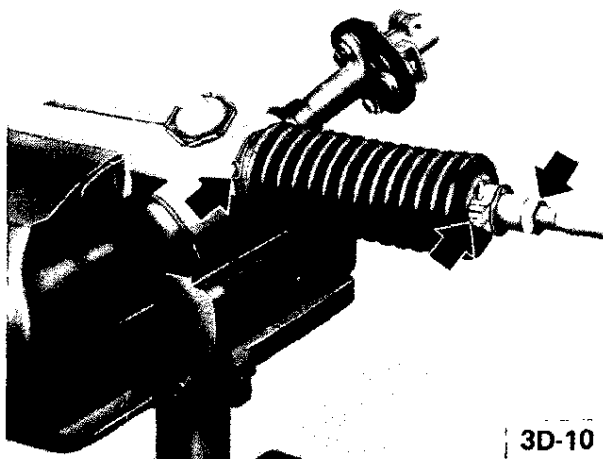

Figure 3D-10 Removing Tie Rod Ends from Axial Joint
3. Remove clamping wire and hose clamp from rubber bellows. Remove bellows from steering gear housing and axial joint. See Figure 3D-10.